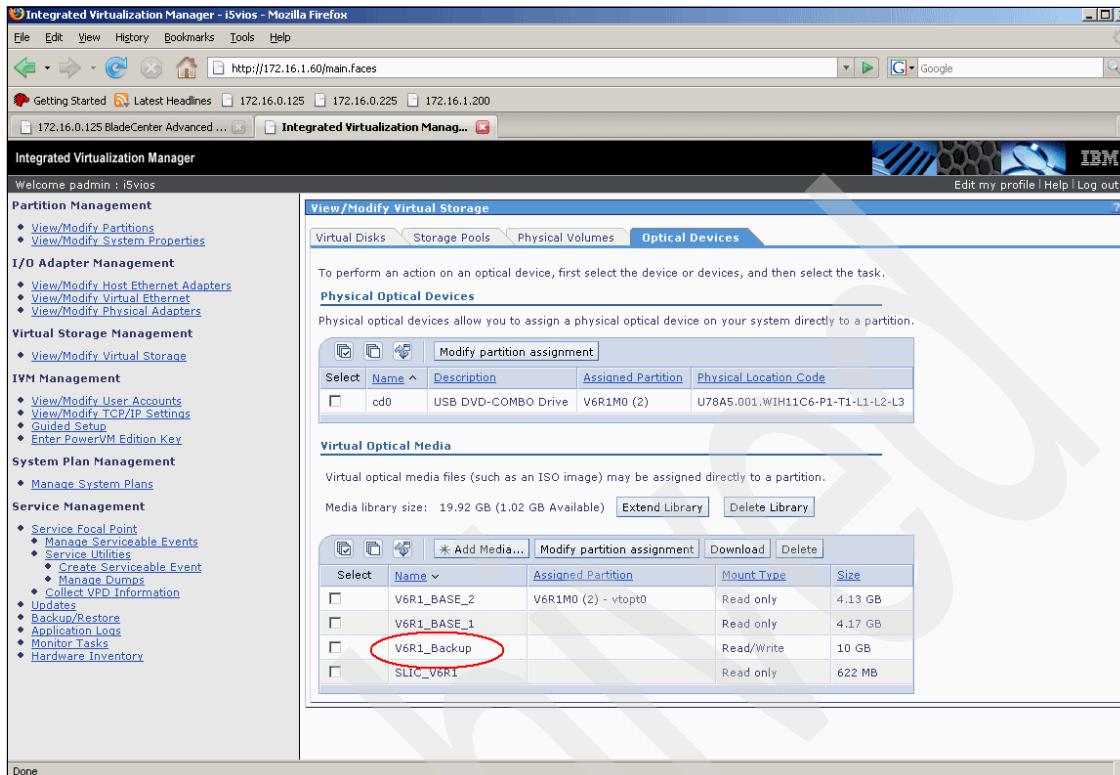

Figure 5-54 IVM Virtual optical device created
8. The new virtual optical device should be listed in the Virtual Optical device list, as shown in Figure 5-54 on page 275.